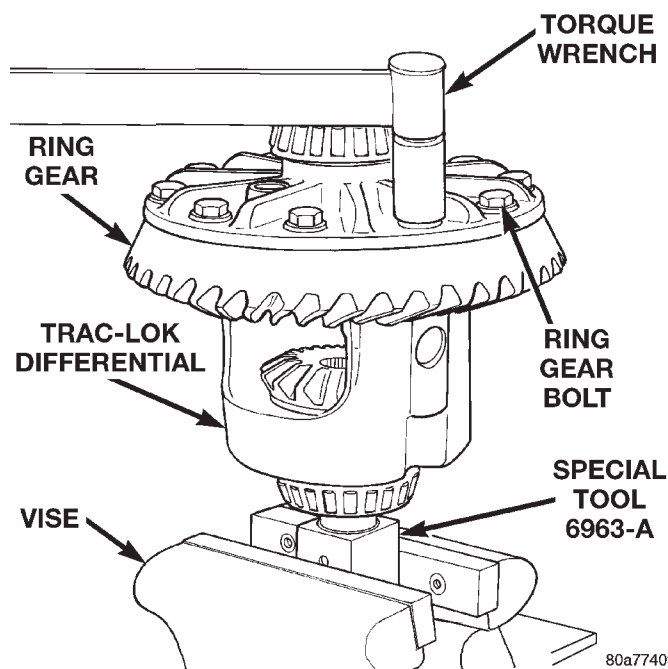

Fig. 34 Ring Gear Bolt Installation
- (1) Invert the differential case on Side Gear Holding Tool 6963-A.
- (2) Position ring gear on the differential case and start two new ring gear bolts. This will provide case-to-ring gear bolt hole alignment.
- (3) Invert the differential case on Side Gear Holding Tool 6963-A.
(4) Install new ring gear bolts and alternately tighten to 95–122 N·m (70–90 ft. lbs.) torque (Fig. 34).
(5) Install differential in axle housing and verify differential side bearing preload, gear mesh, and contact pattern.